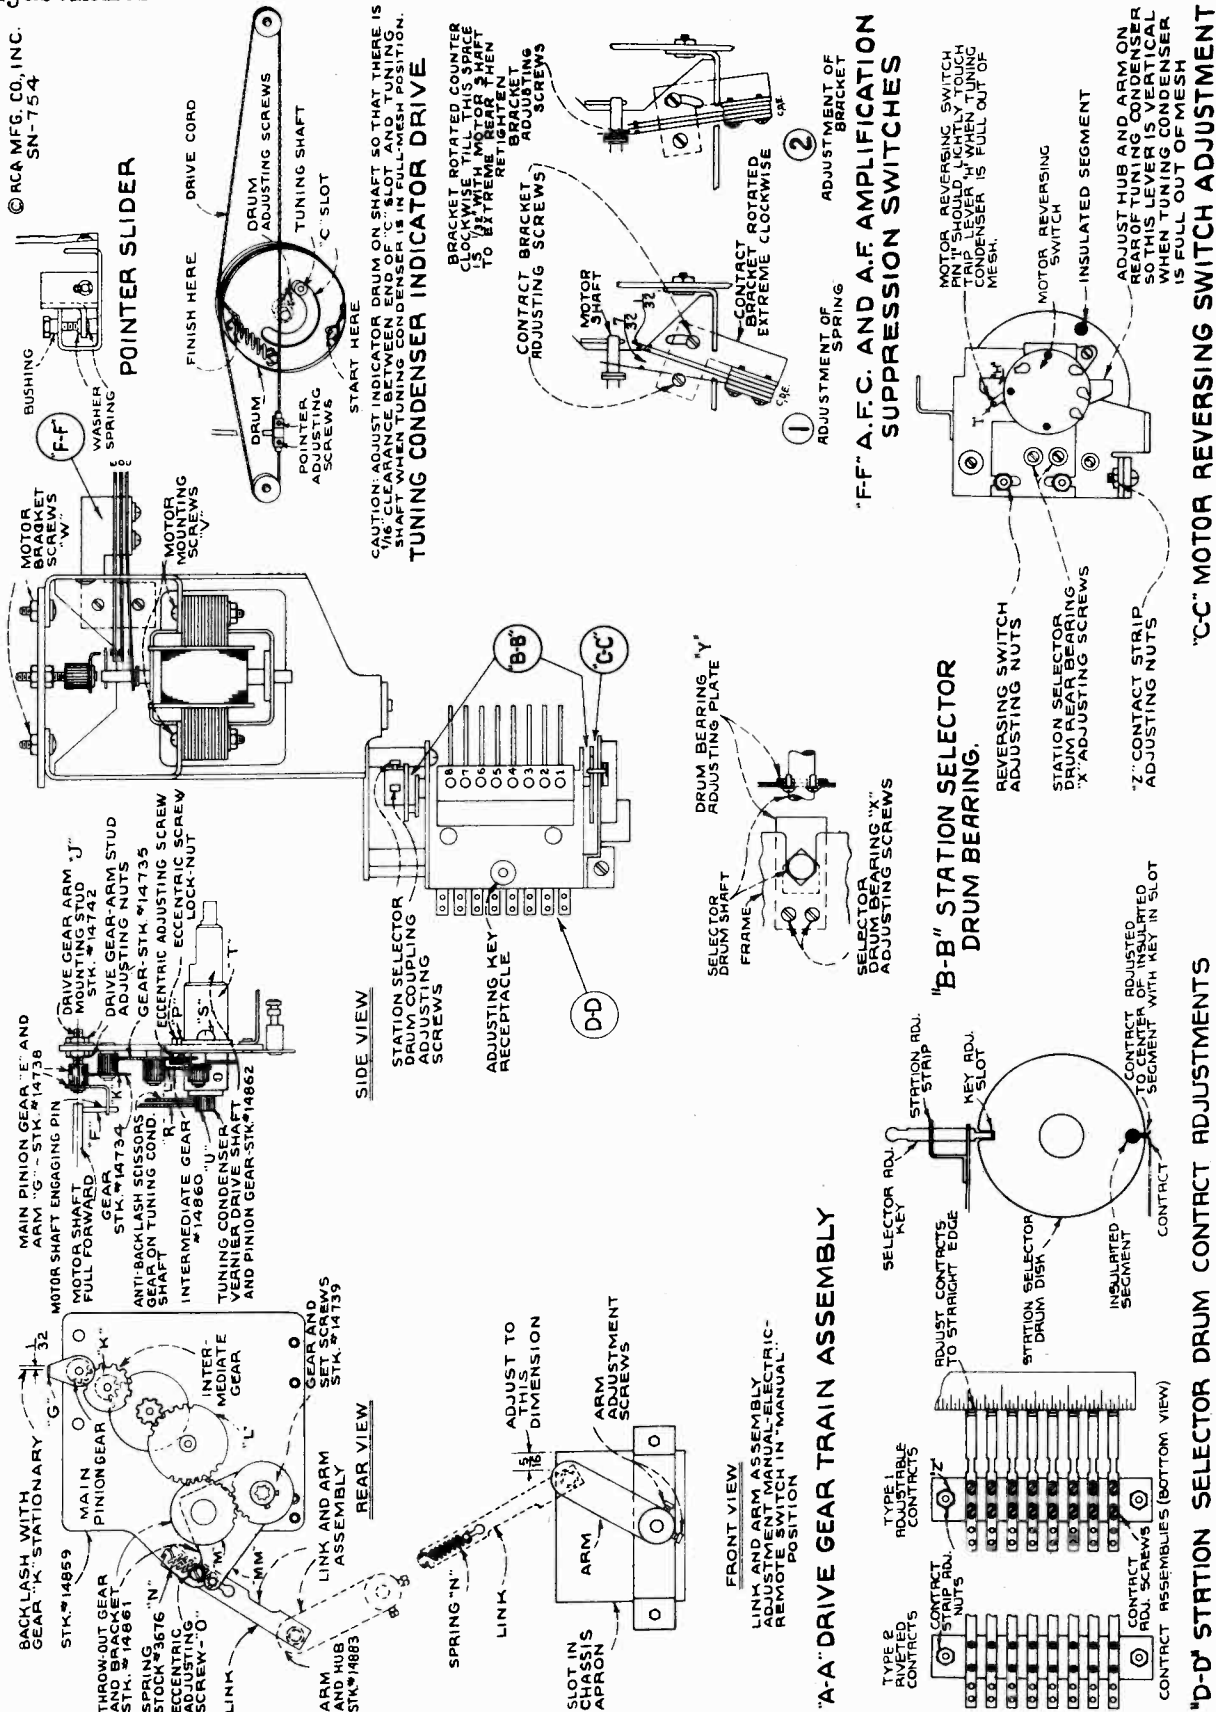

Figure 4—"Electric Tuning" Mechanism Adjustments
The electric tuning mechanism is designed to be as simple in construction and as fool proof in operation as is possible. In order to maintain the accurate results possible with this device care must be taken in effecting any repairs or adjustments. Reference should be made to figure 4 and the following:
**Station Selector Drum.**—(1) Bearing Adjustment—The selector drum may be removed by unscrewing the two bearing adjusting screws "X" on the front and rear bearings and sliding shaft out of slots on frame. To replace drum, the reverse procedure should be followed holding bearing adjusting plates "Y" firmly against the shaft and tightening adjusting screws. (2) Contact adjustment—Two types of contact strips are used. They are designated on figure 4, as types 1 and 2, on which the individual contacts are respectively adjustable and fixed. On type 1, the individual contacts should be adjusted by setting the end contact springs near the mid-position of their travel and aligning the remaining springs to them by means of a straight edge. Either type of contact strip should be adjusted to the selector drum by firmly placing two selector adjusting keys in the station adjustment strip, positions 1 and 8 (locking respective discs), loosening contact strip adjusting nuts "Z" and shifting the contact strip until the end contacts are exactly centered on the respective disc insulating segments. More accurate adjustment may be made by substituting the point of contact with a piece of white paper held behind the contact. Adjustment will be facilitated by removing complete assembly from rear of tuning condenser by unscrewing the three mounting screws. Contacts and discs must be kept free of dirt, filings, and other extraneous matter.
**Lubrication.**—The dial pointer slide should be greased with petrolatum. This same lubrication should be applied lightly to all gear faces of the drive mechanism and sparingly with a cloth to the station selector discs. Any good household oil, such as "3-IN-ONE," is suitable for the motor shaft bearings. A light grade of engine oil should be used for all gear bearings. Medium viscosity engine oil, similar to "PYROIL" (B), should be applied between the thrust washers on the motor shaft. "CASTORDAG," a mixture of graphite and castor oil, is recommended for use at the selector drum end-bearing slots and at the bearings of cable pulleys.